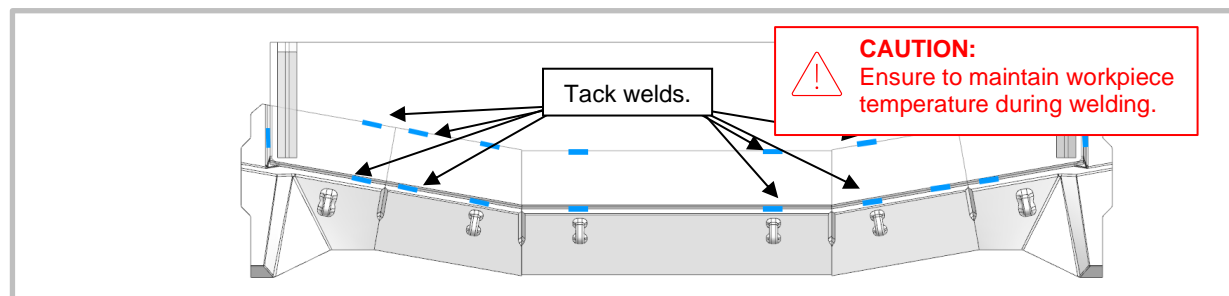

Figure 8 Side segment placement (image is for reference purposes only).
Step 4 :Trim all Half Arrow side segments (if necessary) to suit the lip layout (see section 11.1). Place Half Arrow side segments on to lip and tack in place as shown in Figure 8.